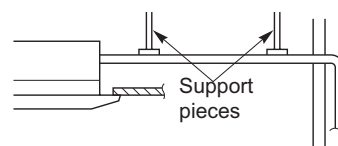

Fig. 2-173
- Do not apply force to the piping on the unit side when connecting the drain pipe. The pipe should not be allowed to hang unsupported from its connection to the unit. Fasten the pipe to a wall, frame, or other support as close to the unit as possible. (Fig. 2-173)